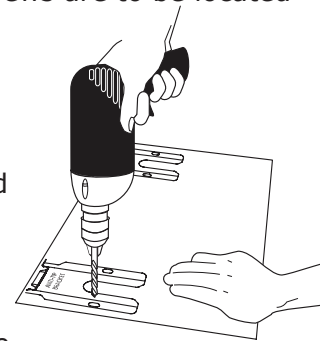

Fig. 6
b. Drill pilot holes & fasten bracket - Drill 1/8" pilot hole where screws are to be located (Fig. 6).